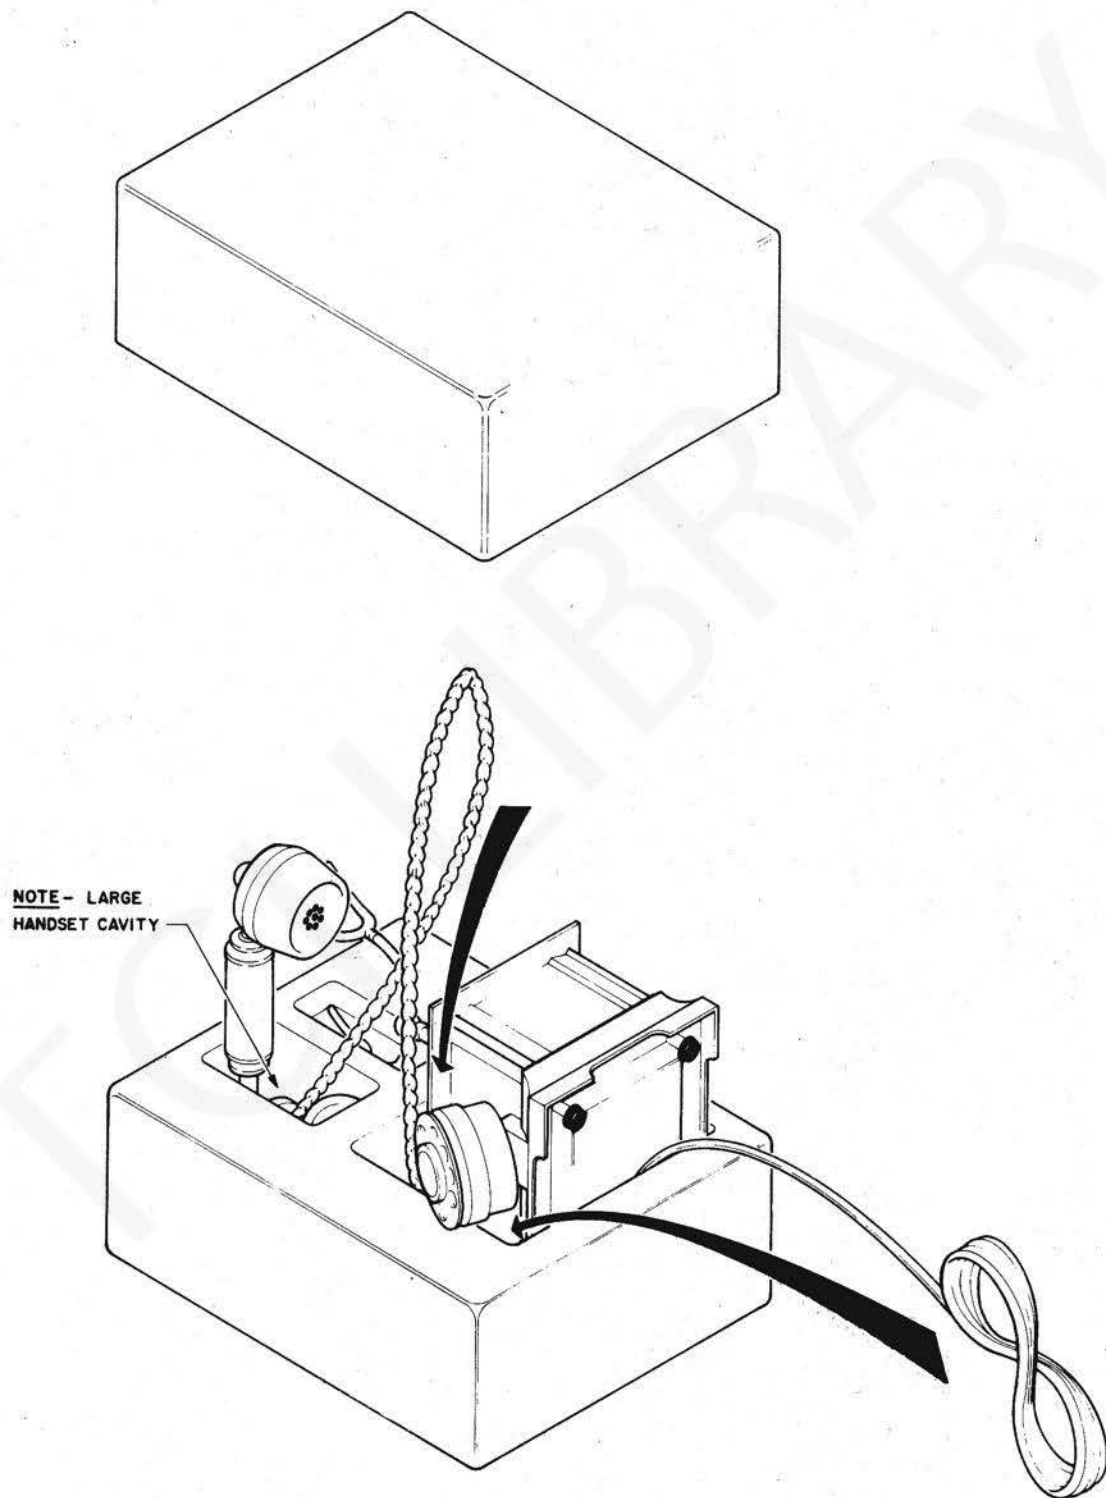

Fig. 12 — Telephone Set Packing Instructions
- (1) Obtain the original packing material.
- (2) Place a large plastic bag completely over the telephone set housing.
- (3) Place a plastic bag completely over the handset.
- (4) Place the housing and handset in their respective cavities in the foam inserts. Gather the mounting cord as shown in Fig. 12, and place in the housing cavity under the dial as shown.
- (5) Arrange the handset cord in a similar manner as the mounting cord.
- (6) Enter the complete assembly into the carton.